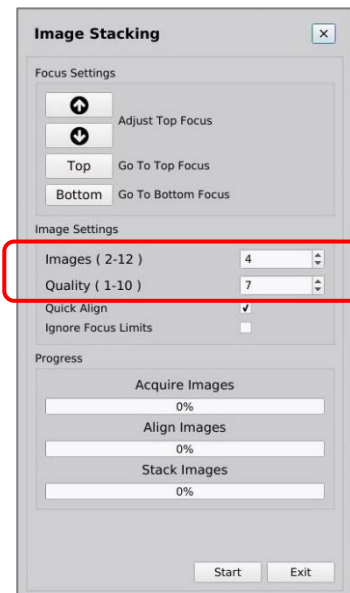

Fig. 21
- 6. For better image quality you can increase the number of images taken in the stack and/or you can increase the quality (Fig.21). Doing so will increase the file size of the image.